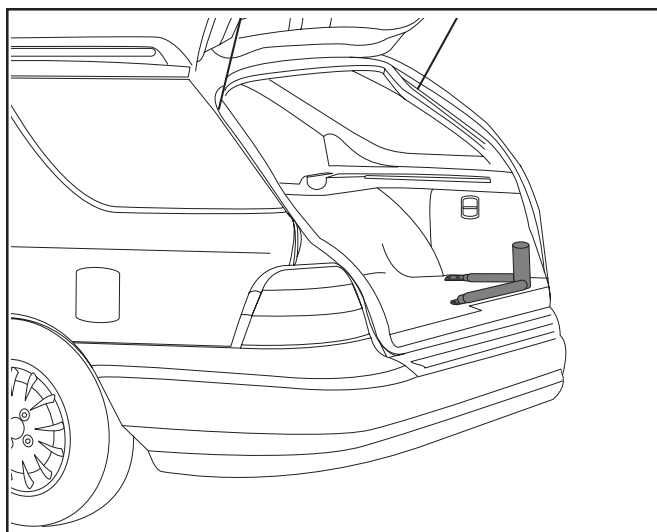
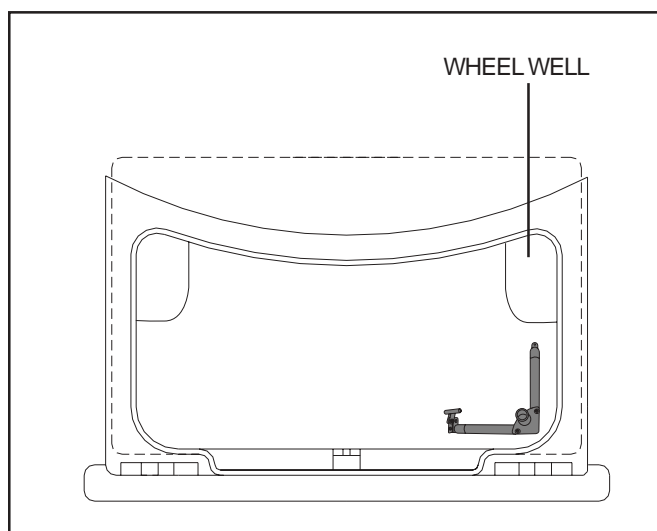

Figure 2. L-Base (Hatchback Installation)
Figure 3. L-Base (Trunk Installation)
2. Before permanently installing the lift, place the L-base inside your vehicle in the area in which you intend to install it. See **figure 2** for L-base positioning in vehicles with hatchbacks, or **figure 3** for trunk installation.
Position the L-base as shown in **figure 3**. You may need to situate the L-base so the wheel well doesn't interfere with the L-base extensions. Ensure there is adequate room for a scooter to comfortably fit into the trunk.